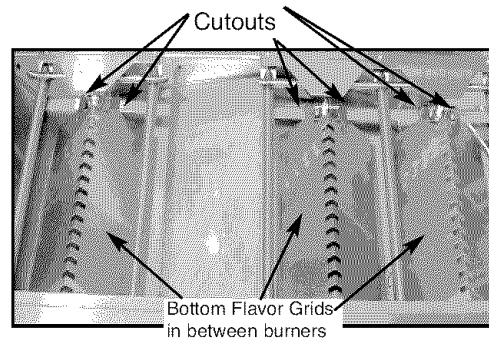

Fig. 9
1. Check to make sure the bottom Flavor Grids are correctly installed in the cutouts and around the ignitors, as they may have shifted during shipment. (See Fig. 9)